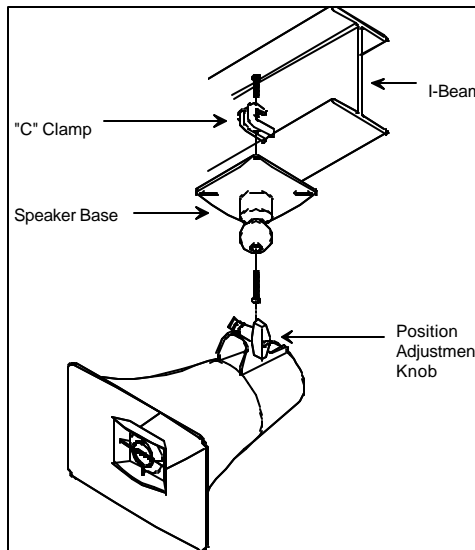

Figure 1 - Mounting to a Beam with a "C" Clamp
- A "C" clamp is provided with the horns to allow mounting to a beam. Place the bolt through the hole in the bottom of the base to secure the "C" clamp to the beam (See Figure 1). It is suggested that the horn be mounted to the underside of the "I" beam to provide maximum positioning adjustments.
The horns may be rotated or moved up and down to obtain the desired position by loosening the position adjustment knob (See Figures 1 and 2) at the bottom of the unit approximately one turn. Make required adjustments and re-tighten knob.